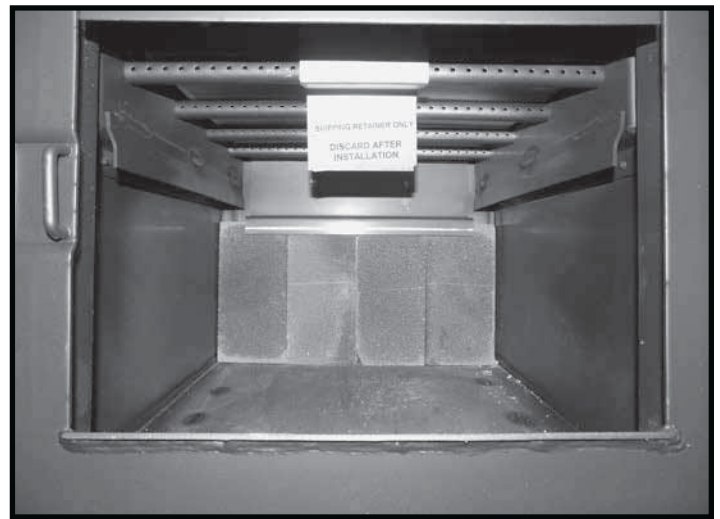

Figure 20: Bricks against rear wall.
2. Place 3 more bricks up under the rear brick rail to complete the rear brick placement (Figure 20).